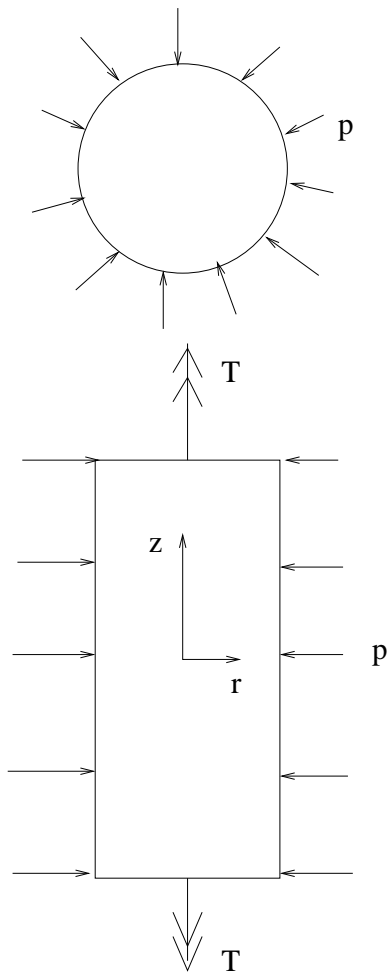

Figure 1: Part (b) of Problem 1.
- (b) Using the above solution, state (without proving) the stress and strain component matrices at (r, θ, z) for the problem shown in Fig. 1 (where T denotes the torque), i.e.,